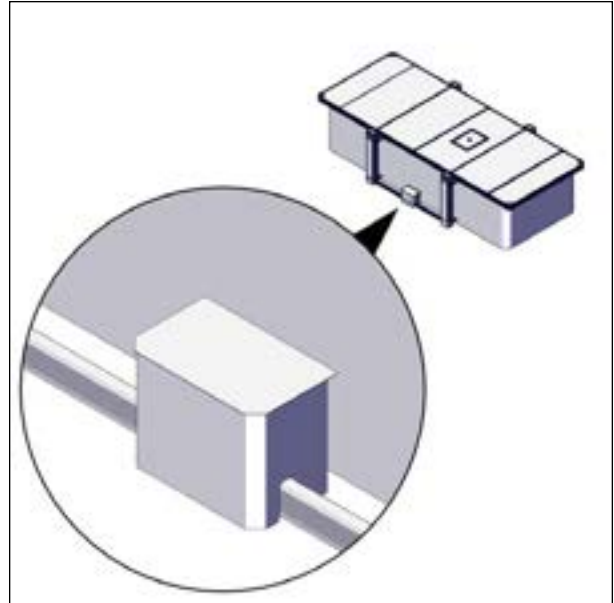

FIGURE 97: CONTROL BOX HOUSING INSTALLATION
- Slide the control box housing onto the U-frame, see Figure 97.